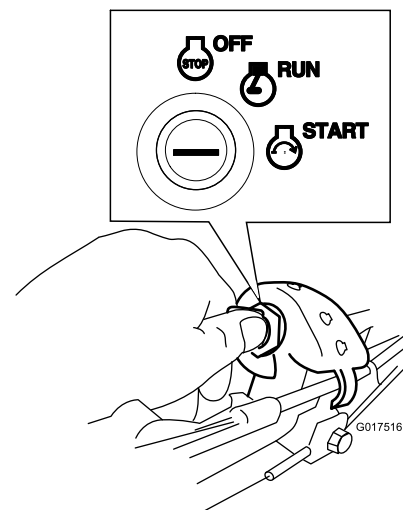

Figure 17
- **Ignition Key:** Turn and hold the ignition key to the Start position (Figure 17); when the engine starts, release the key.
1. Turn the ignition key to the RUN position (Figure 17).